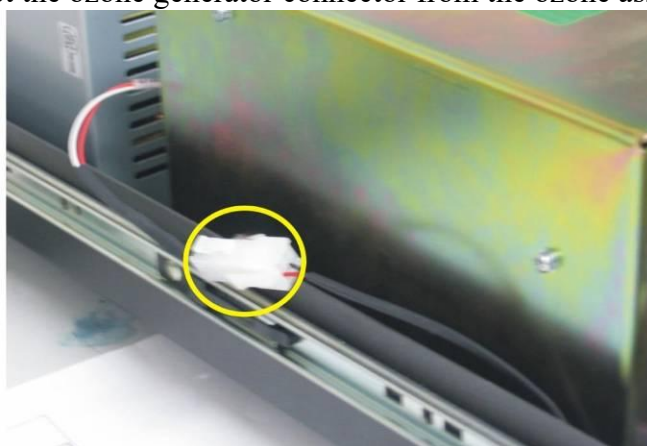

Figure 8 Ozone generator cable
2. Disconnect the ozone generator connector from the ozone assembly (Figure 8)